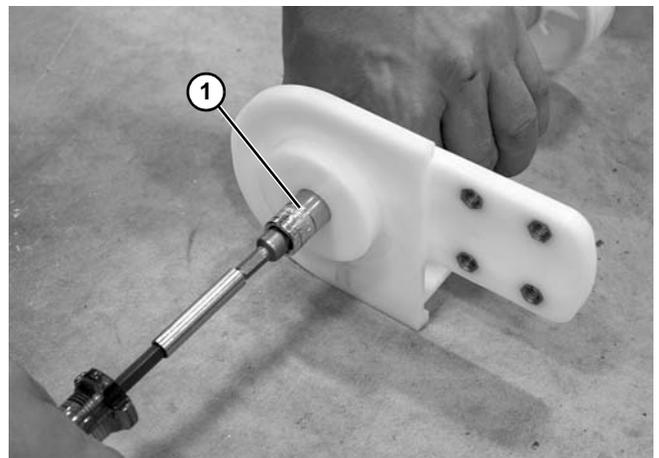

Figure 52
- Using a 13 mm socket (**Figure 52, item 1**), remove the headplate bolt from the shaft.